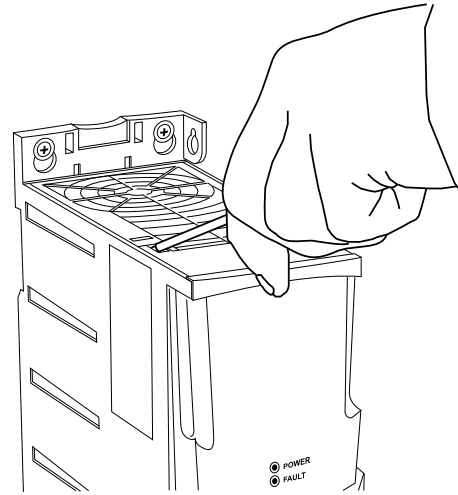

Fig. 40 — Remove Top Cover on ACS320 VFD
2. Insert a small straight blade screwdriver into the slot and press in to release the top cover as shown in Fig. 40.